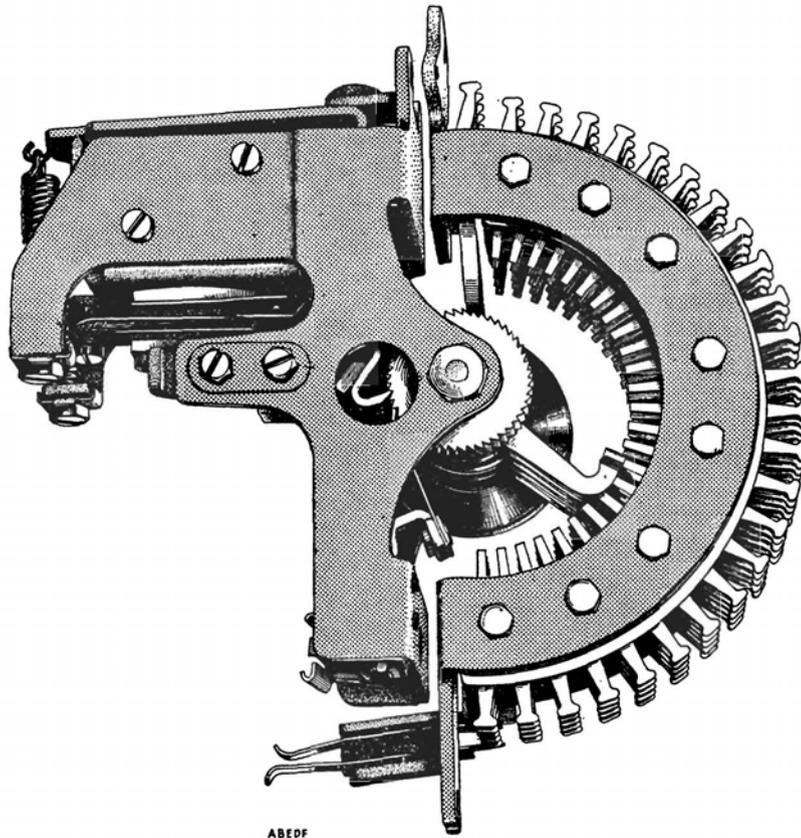

FIG. 3.—REMOVING THE MECHANISM FROM THE BANK
4. **Removing mechanism from bank.**—To avoid any possibility of the wipers fouling the bank and brushes, set the wipers on the lower half of the bank between contacts 15 and 25. Then withdraw the two upper mechanism fixing screws; grip the mechanism with one hand, remove the bottom fixing screw with the other hand, and withdraw the mechanism (see Fig. 3).